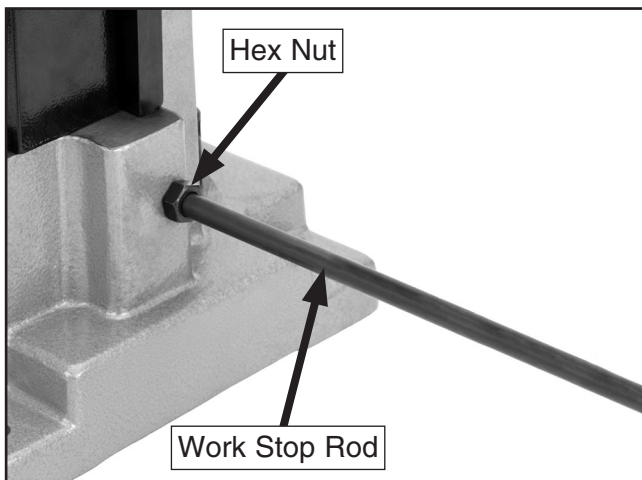

Figure 6. Attaching work stop rod.
2. Insert the stop rod with the M12-1.75 hex nut into the base. Tighten the hex nut against the base to secure it (**Figure 6**).